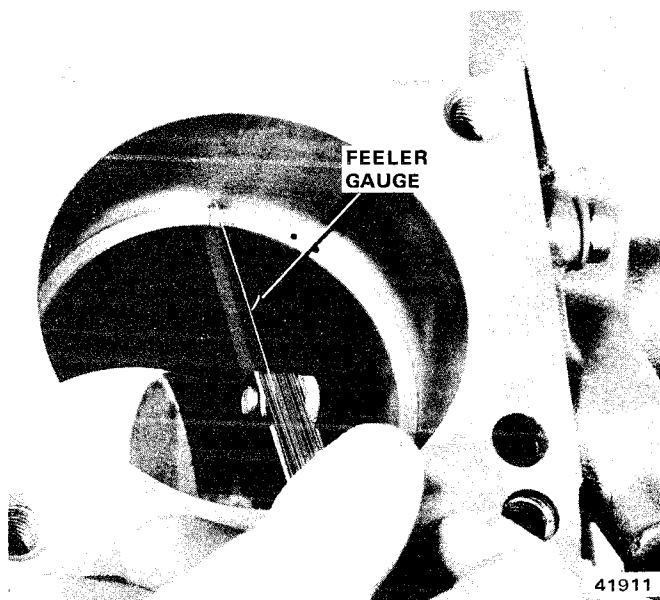

Fig. 1B-45 Ring Gap Clearance
Refer to figure 1B-46 for position of ring gaps when installing rings.
(1) Install oil control rings as indicated by instructions in package. It is not necessary to use tool to install upper and lower rails (fig. 1B-47). Insert expander ring first, then side rails.